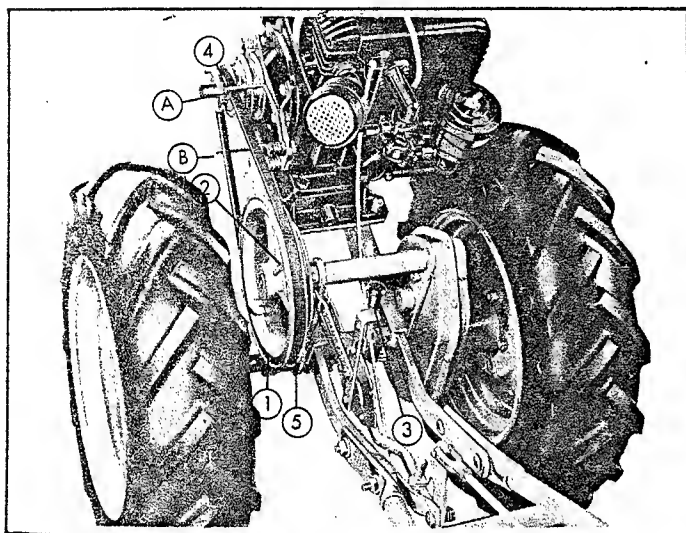

Fig. 1
Recommended for close cultivation and for use with weed cutter and saw in horizontal position. Miles per hour 1.25 to 1.85. To obtain "Lo Lo" speed see Fig. 1.
With pulley (1) mounted as shown (small pulley to the outside) raise pulley plunger (2). Fig. 1. and slide pulley (1) to the left until plunger drops into middle spot on pulley shaft.